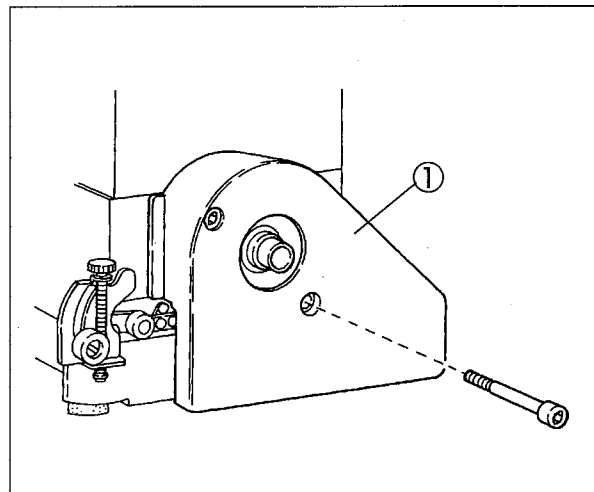
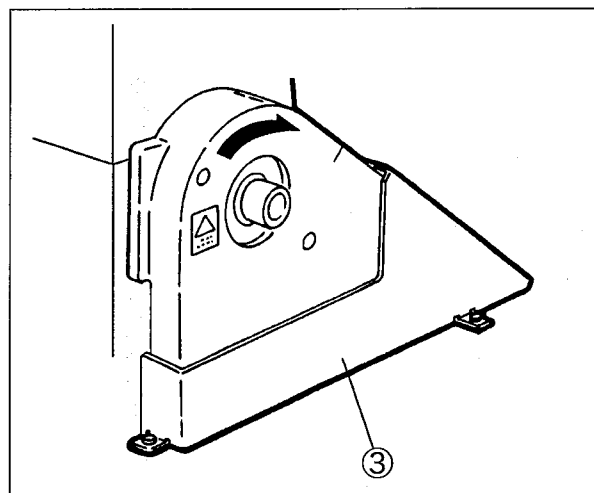

Fig. 8
Fig. 10
- (1) Install the belt cover ①. (Fig. 8)
- (2) Push the belt cover support ② to the belt cover ① to install it.
- (3) Fix the belt cover(lower) ③ on the machine table. (Fig. 10)